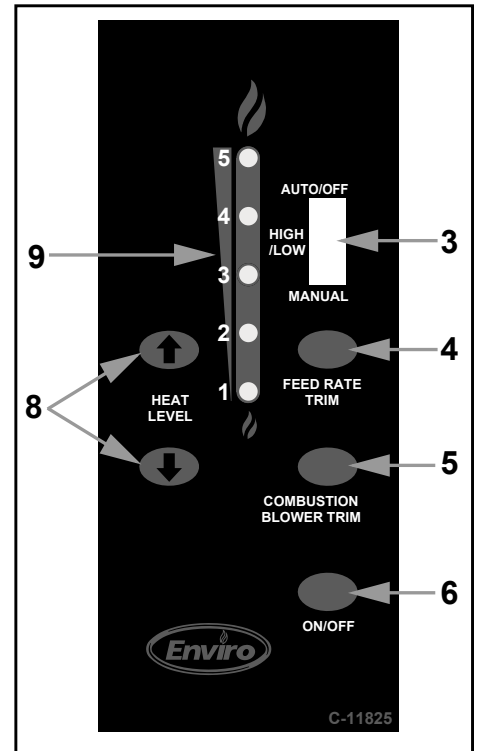

Figure 10: Daughter Circuit Board Control Panel - Generation II.
**HI / LOW OPERATION** (Factory Setting): One pin is covered, as shown as 'A' in Figure 10. When the jumper J9 is not jumped then the control board is in a HI / LOW mode operation. If the unit has been placed in the HI / LOW mode, the unit will be taken to a low or idle setting when the thermostat is not calling for heat. When the thermostat calls for heat, the unit will go to the setting that is displayed on the control board Heat Indicator. If the heating load is not great enough when the stove is on low, the exhaust temperature switch will turn the stove off.
**ON / OFF OPERATION:** Both pins are covered, as shown as 'B' in Figure 10. If the control board is placed with J9 jumped then the control board is in a ON / OFF mode of operation. In the ON /OFF thermostat mode, when the thermostat calls for heat, the unit will go through an ignition sequence and light the stove. Once lit the unit will operate at the selected setting displayed on the control board Heat Output Indicator. Once the thermostat stops calling for heat, the unit will stop feeding pellets and begin its shut down sequence until cold then turn off.